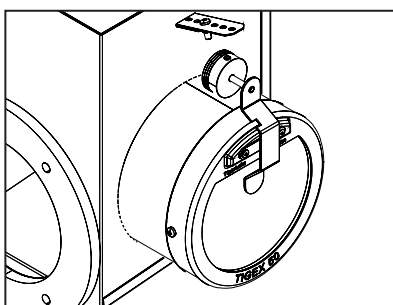

Figure 10-1: Draught stabiliser
- The draught stabiliser damper, on the fan box, is unobstructed and free to move. Ensure that the damper locking lever is in the ‘unlocked’ position’. Refer to Figure 10-1.